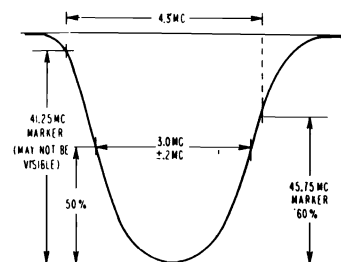

Fig. 3 IF CURVE
5. The IF curve now obtained should be checked against the ideal response curve, see figure 3. Maintain sweep output at 3V PP as alignment progresses. Keep markers low. A reduction in sweep output should reduce curve amplitude without appreciably altering the shape of the response curve.